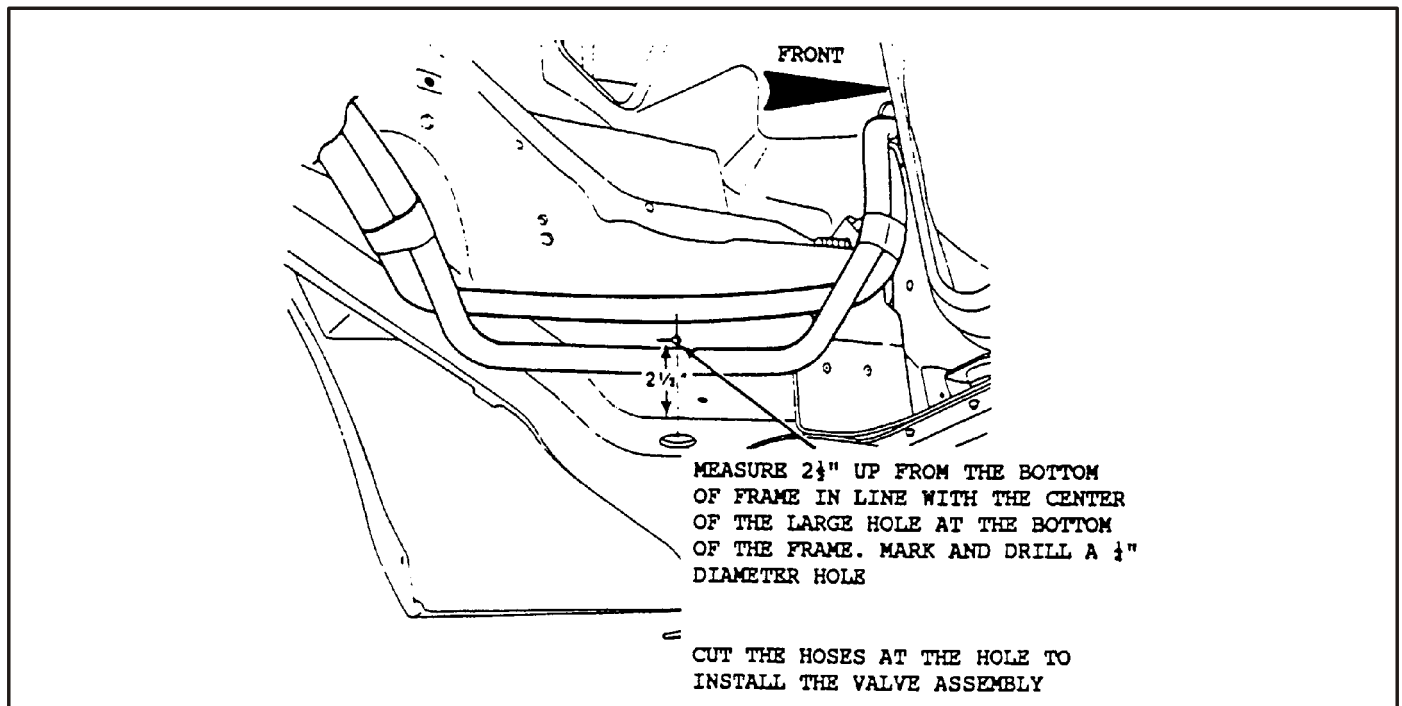

Figure 3
1. Measure up 2 1/2 inches from the bottom of the frame rail, as shown in Figure 3, and drill a 1/4 inch hole in the frame rail.
2. Pushing the cooler hoses against the frame, identify and cut the cooler "in" (to cooler) hose at the drilled hole (Figure 3) and allow oil to drain. Cut only one hose at a time so as not to get them mixed.
6. Now cut the other hose, cooler "out" (from cooler) at the drilled hole (Figure 3), allow oil to drain, and connect the hose ends to the bypass valve assembly connectors in the same manner as above.